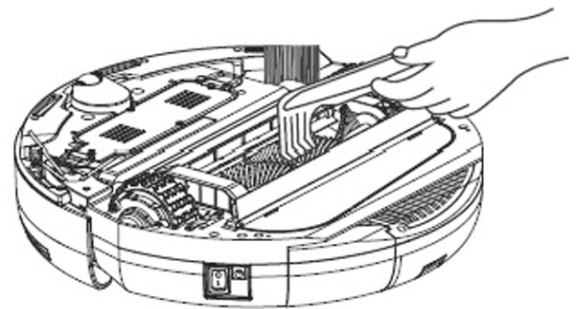

Fig 4
1. Regularly remove hair or big dust on the main brush and middle rubber brush to improve cleaning performance. Remove dusts at inlet. Directly apply a cleaning hairbrush to clean paper or tiny pieces. For any hair, wool or other object wrapped inside, carefully rotate the main brush and cut with cutter or pull out (as shown on Fig 4).